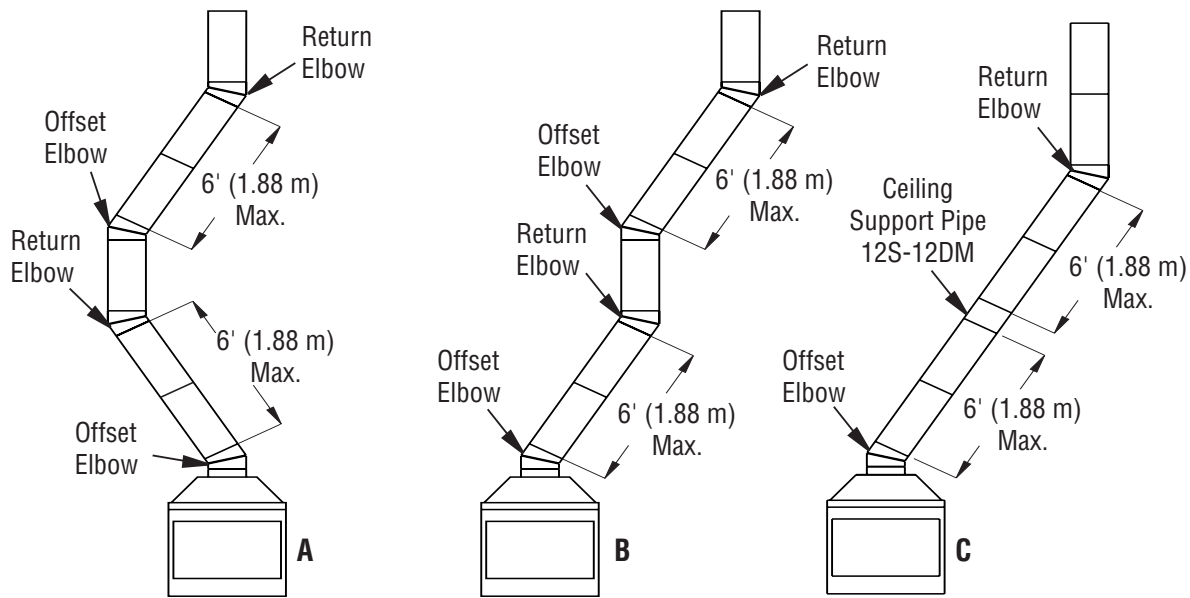

**Figure 10 - Ceiling Support Pipe 12S-12DM**
2. Chimney weight above offset rests on return elbow. Straps must be securely nailed to rafters or joists (see Figure 10, details A and B).